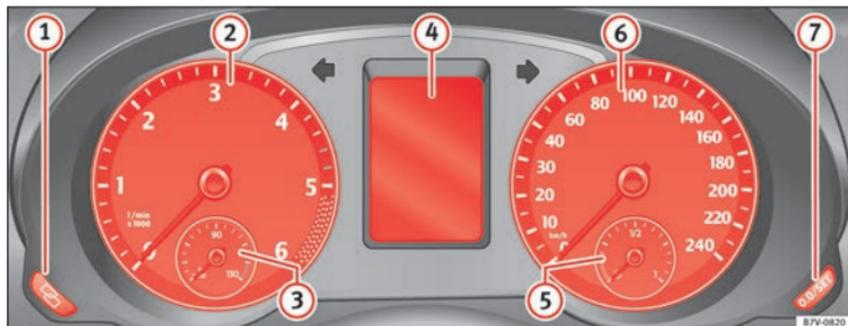

Fig. 119 Instrument panel, on dash panel
Details of the instruments >>> Fig. 119:
» **Fig. 119 7**. Hold button down to scroll through the numbers quickly.
Together with the gear-change indicator, the rev counter offers you the possibility of using the engine of your vehicle at a suitable speed. The start of the red area » **Fig. 119** indicates the maximum engine speed working at operating temperature. However, it is advisable to change up a gear or move the selector lever to **D** (or lift your foot off the accelerator) before the needle reaches the red zone » **1**. We recommend that you avoid high revs and that you follow the recommendations on the gear-change indicator. Consult the additional information in » **page 197**.
A variety of information can be viewed on the instrument panel display » **Fig. 119 4**, depending on the vehicle equipment:
The service indication is shown on the dash panel display » Fig. 119 ④.